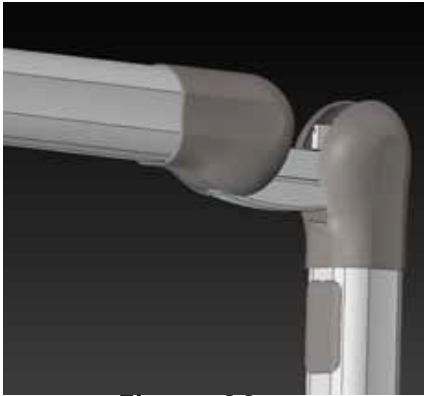

Figure 90
- Keep the Vertical Arm of the scissor arm in Vertical position and Horizontal Arm in horizontal position as shown in Figure 90 .